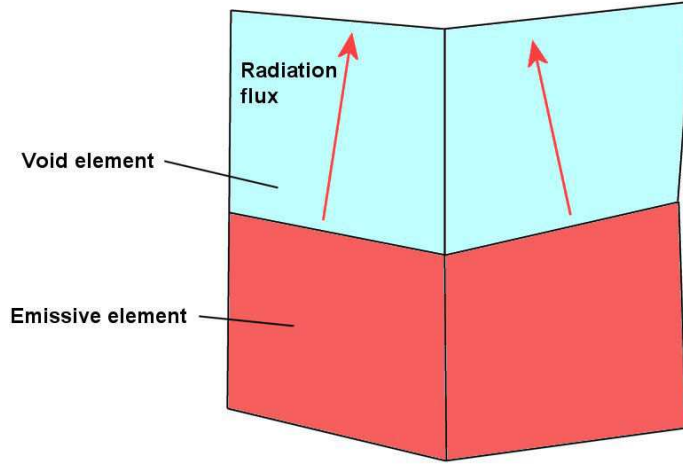

Figure 8: Definition of a radiation boundary in **HeatWave**.
**HeatWave** can model heat loss by thermal radiation in models of high-temperature systems like thermionic cathodes. To begin, we shall review the procedure used in the code to understand the capabilities and limitations of the model. Radiating surfaces of arbitrary shape may be defined by creating regions in **MetaMesh** and then assigning radiation properties in the **HeatWave** script using the *Emiss* and *Void* commands. As shown in Fig. 8, thermal radiation leaves elements with non-zero emissivity ( $\epsilon > 0.0$ ) through facets that border on void elements. The power loss through a facet is given by